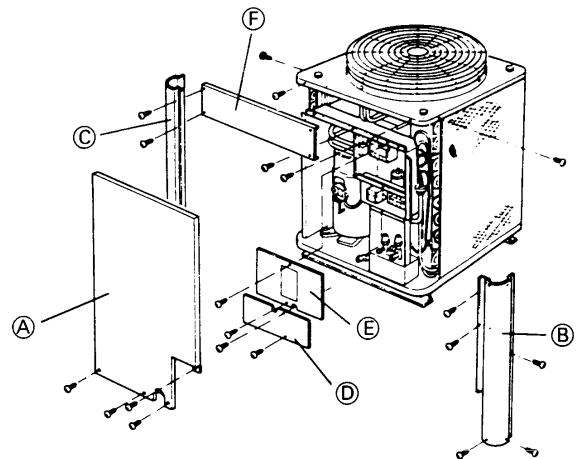

Fig. 6
- 1) Remove the exterior panels in the order of the front panel (A), side panel (B) and side panel (C).
- 2) Remove the cover plates (D) and (E).
- 3) Remove the mounting plate (F). Fig. 6
- 1) Many wires have to be removed. When removing wires, carefully check the electric diagram on the rear side of the cover plate ④ Fig. 6. Reconnect the wires correctly after replacing the compressor.